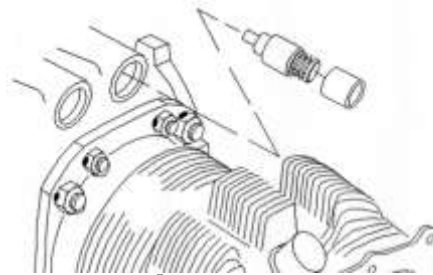

Figure 31
- (1) For each of the two shroud tubes, install the plunger assembly and hydraulic socket in the tappet body in the crankcase (Figure 31).
- (2) Apply engine oil mixture (15% pre-lubricant (STP or equivalent) and 85% SAE No. 50 mineral base aviation grade lubricating oil) to all four of the shroud tube oil seals, two for each shroud tube.